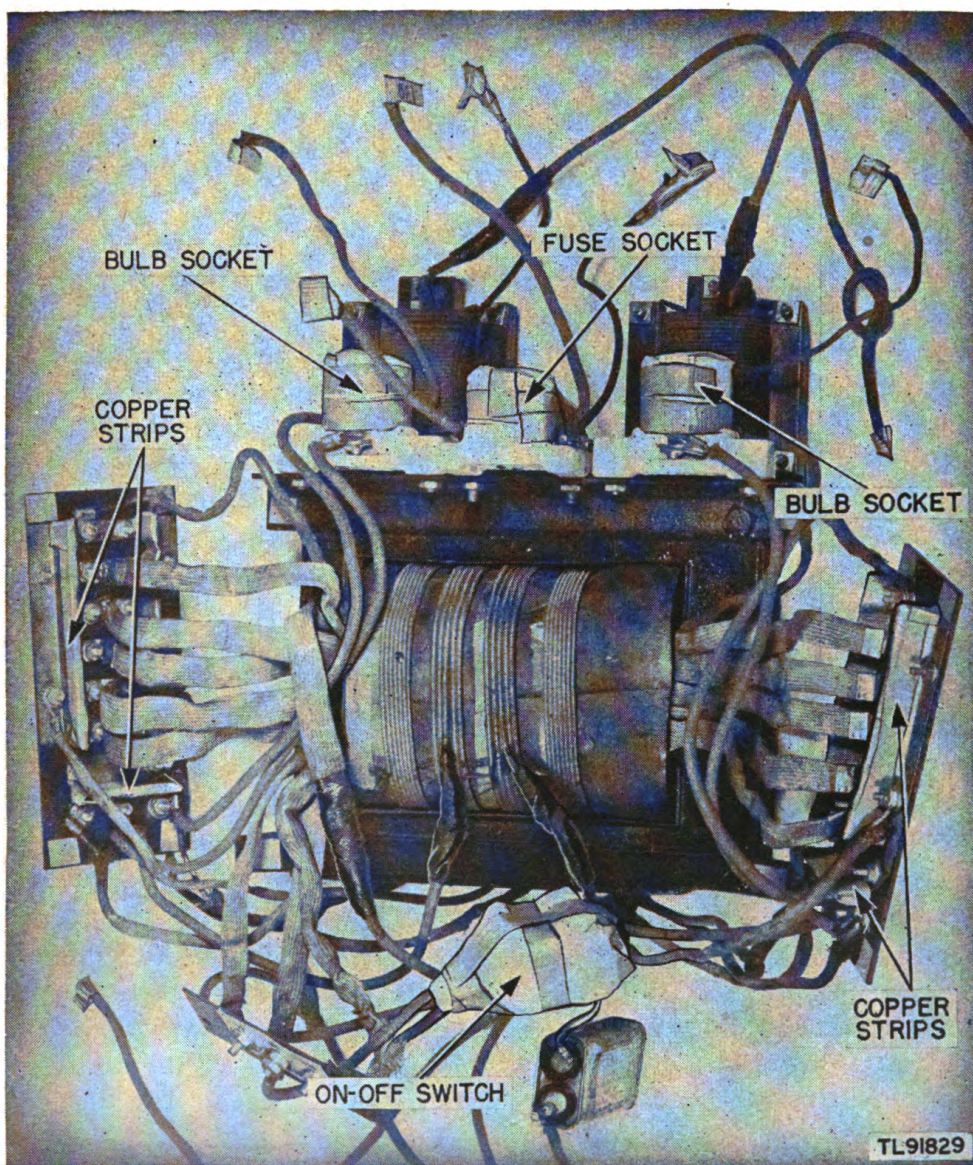

Figure 17. Rectifier RA-36-(1) and rectifier 6RB6B17, masking transformer assembly.
the same time, straighten out the lead wires and turn the phenolic strips over. Do not disconnect any of the wires. (See fig. 17.)
d. MASKING. (fig. 17). (1) Mold paper to cover the ON-OFF control switch, and fasten the paper in place with masking tape.
(2) Mold paper to cover the fuse sockets, and fasten the paper in place with masking tape.
(3) Mold paper to cover the rectifier bulb sockets, and fasten paper in place with masking tape.
(4) Mask the two long pairs and the one short pair of copper strips, found in the back of each of the two phenolic strips containing the contacts for the charging-rate-adjustment plugs, with masking tape. (Cover only those portions of the copper strips which make contact with the plugs.)
(5) Mask all mounting holes in the case, chassis, and plug boards, exposed through removal of the component, with masking tape.
(6) Cover the terminal lugs of the four meter leads and all leads disconnected in one or more places, where disconnected, with masking tape.
(7) Cover the two clips disconnected from the rectifier bulbs with masking tape.
f. VARNISHING. (1) Apply three coats of moistureproofing and fungiproofing varnish (Lacquer, Fungus-resistant, spec. No. 71-2202 (stock No. 6G1005.3), or equal). Allow each coat to dry for 15 or 20 minutes at the temperature specified in *e* above, before applying the next coat.
(2) Apply varnish immediately after the equipment is dried. If varnish is not applied immediately, moisture condenses on the equipment. Varnish applied over the moisture peels off readily after the varnish has dried.
(3) Spray the case, panels, base, chassis, and component parts of the equipment, except as noted.
(4) Varnish the transformers and internal reactors by brush. Apply as thick a coating as possible to the coils. Allow the varnish to penetrate into all openings between layers of the coils. Apply a thick coating of varnish to all laminations. Make certain that all areas and openings are completely covered. (See fig. 17.)
(5) Brush coat all points missed by the spray on parts mentioned in (3) above.
(6) Remove paper mask from the ON-OFF control switch, and brush coat the plastic parts of the switch. (See fig. 17.)
(7) Do not spray the meters. Brush coat the backplate and the joint between the backplate and the meter shell of each meter. In the same manner, paint the heads of all retaining screws and the joints between the glass and the meter shell. Make certain that these joints are well